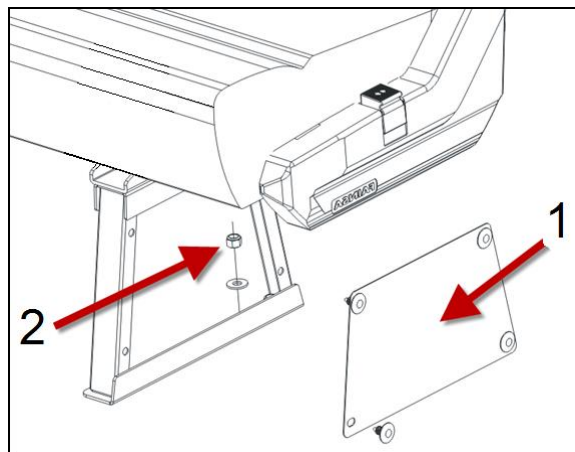

FIGURE 5
6. Remove seat pedestal cover (item 1, Figure 5). This panel is retained by four (4) plastic retainers snapped in place to hold the panel. Use a tack lifter to remove retainers. Insert a little piece of cardboard between the cover and the tack lifter to protect the painting.
7. Remove nuts (3) that fix the seat pedestal to the floor track (item 2, Figure 5).